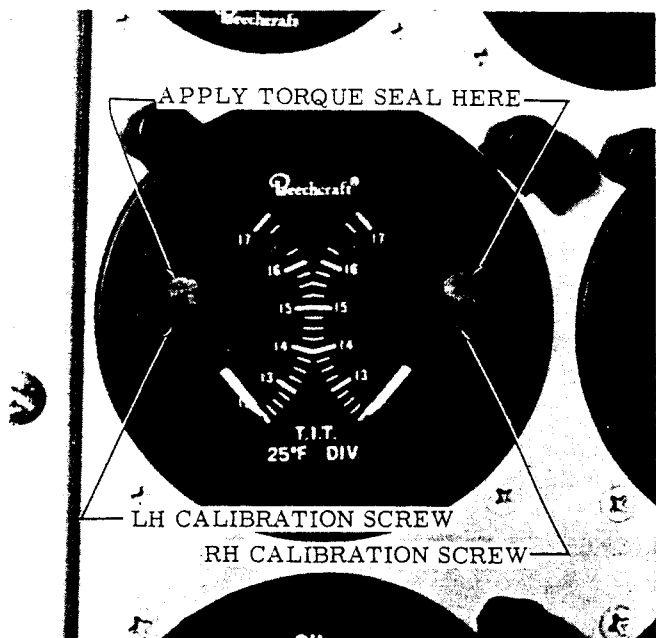

Figure 6-7. TIT Indicator Calibration
(Figure 6-7)
d. If the seal was broken on the calibration screw, reseal by applying a small amount of Torque Seal as shown in Figure 6-7.